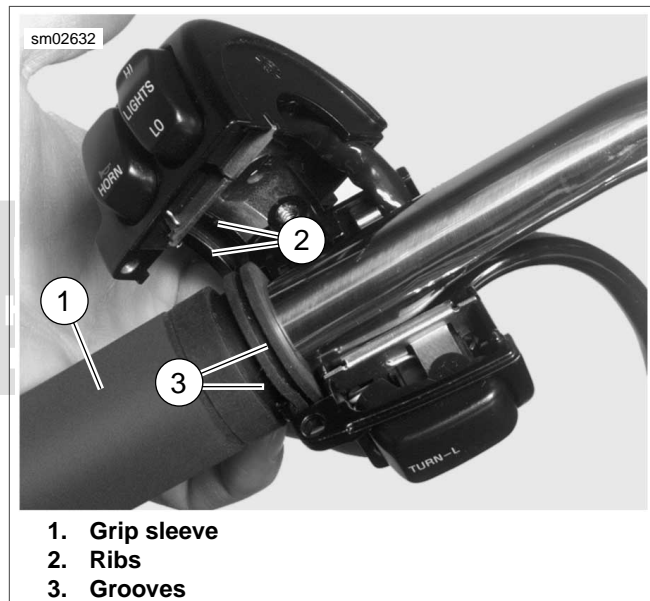

Figure 7-95. Left Handlebar Switch Housings
2. See Figure 7-95. Install upper and lower switch housings on handlebar. Be sure that ribs (2) on outboard side of switch housings fit in grooves (3) molded into grip.